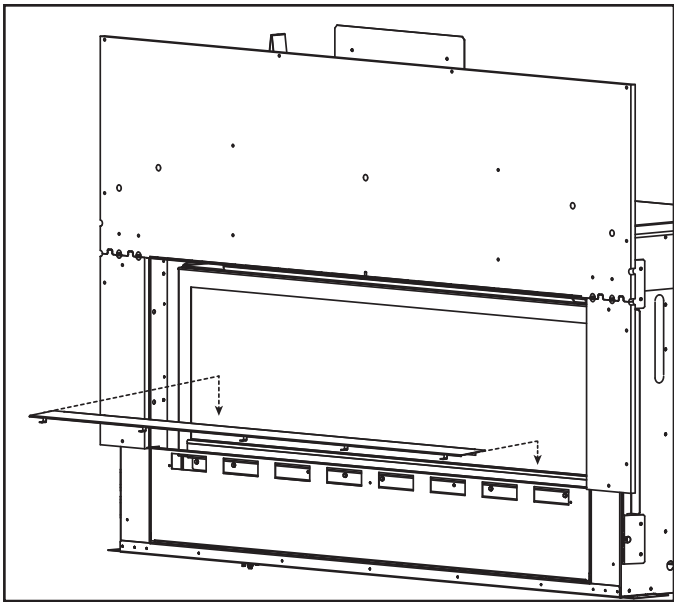

Figure 8. Install Bottom Glass Shield
- Install bottom glass shield between glass and glass frame. See Figure 8.